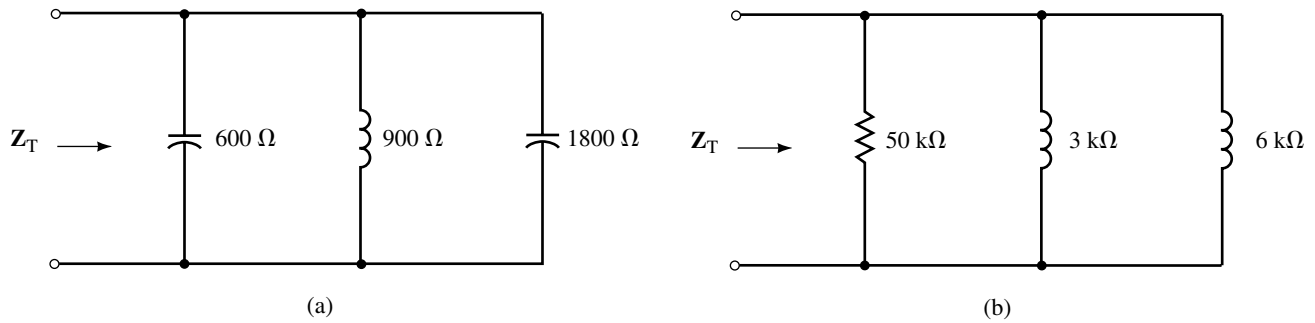

FIGURE 18–102
33. Given the circuit of Figure 18–103.